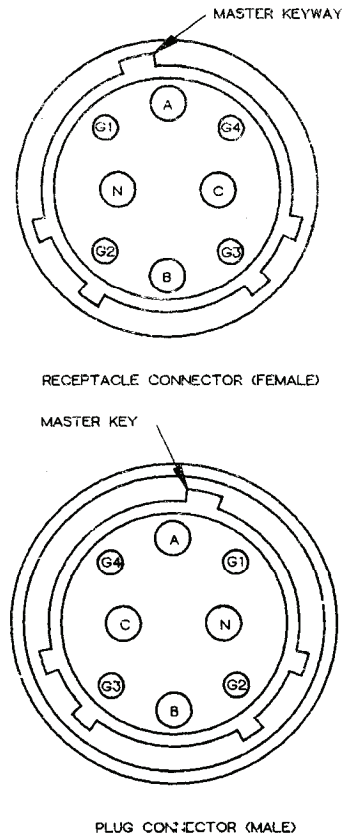

Figure 5. 200 and 100-amp, 8-wire Connector Face/ Key Positioning
- (a). **Service/feeder and pigtail cable wires** are tagged with color-coded tape and pin match (See Fig. 5 thru 7) as follows:
- Neutral line (LO) - white wire connects to pin/socket marked N
4. Determine correct pin-to-key positioning on new connector as stated above and shown in Figures 5 through 8.